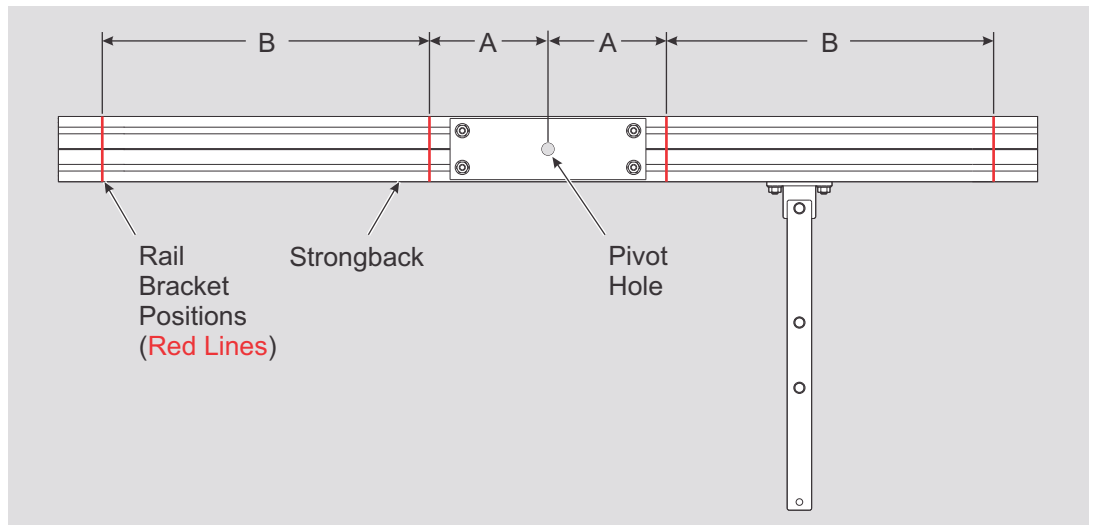

Figure 1-1: Measuring Rail Bracket Positions on Strongback
- B. First mark the “A” dimension on either side of the Strongback Pivot Hole. From the center of the Pivot Hole, measure outward on both sides of the Pivot Hole and draw a line establishing dimension “A”. (See Figure 1-1)